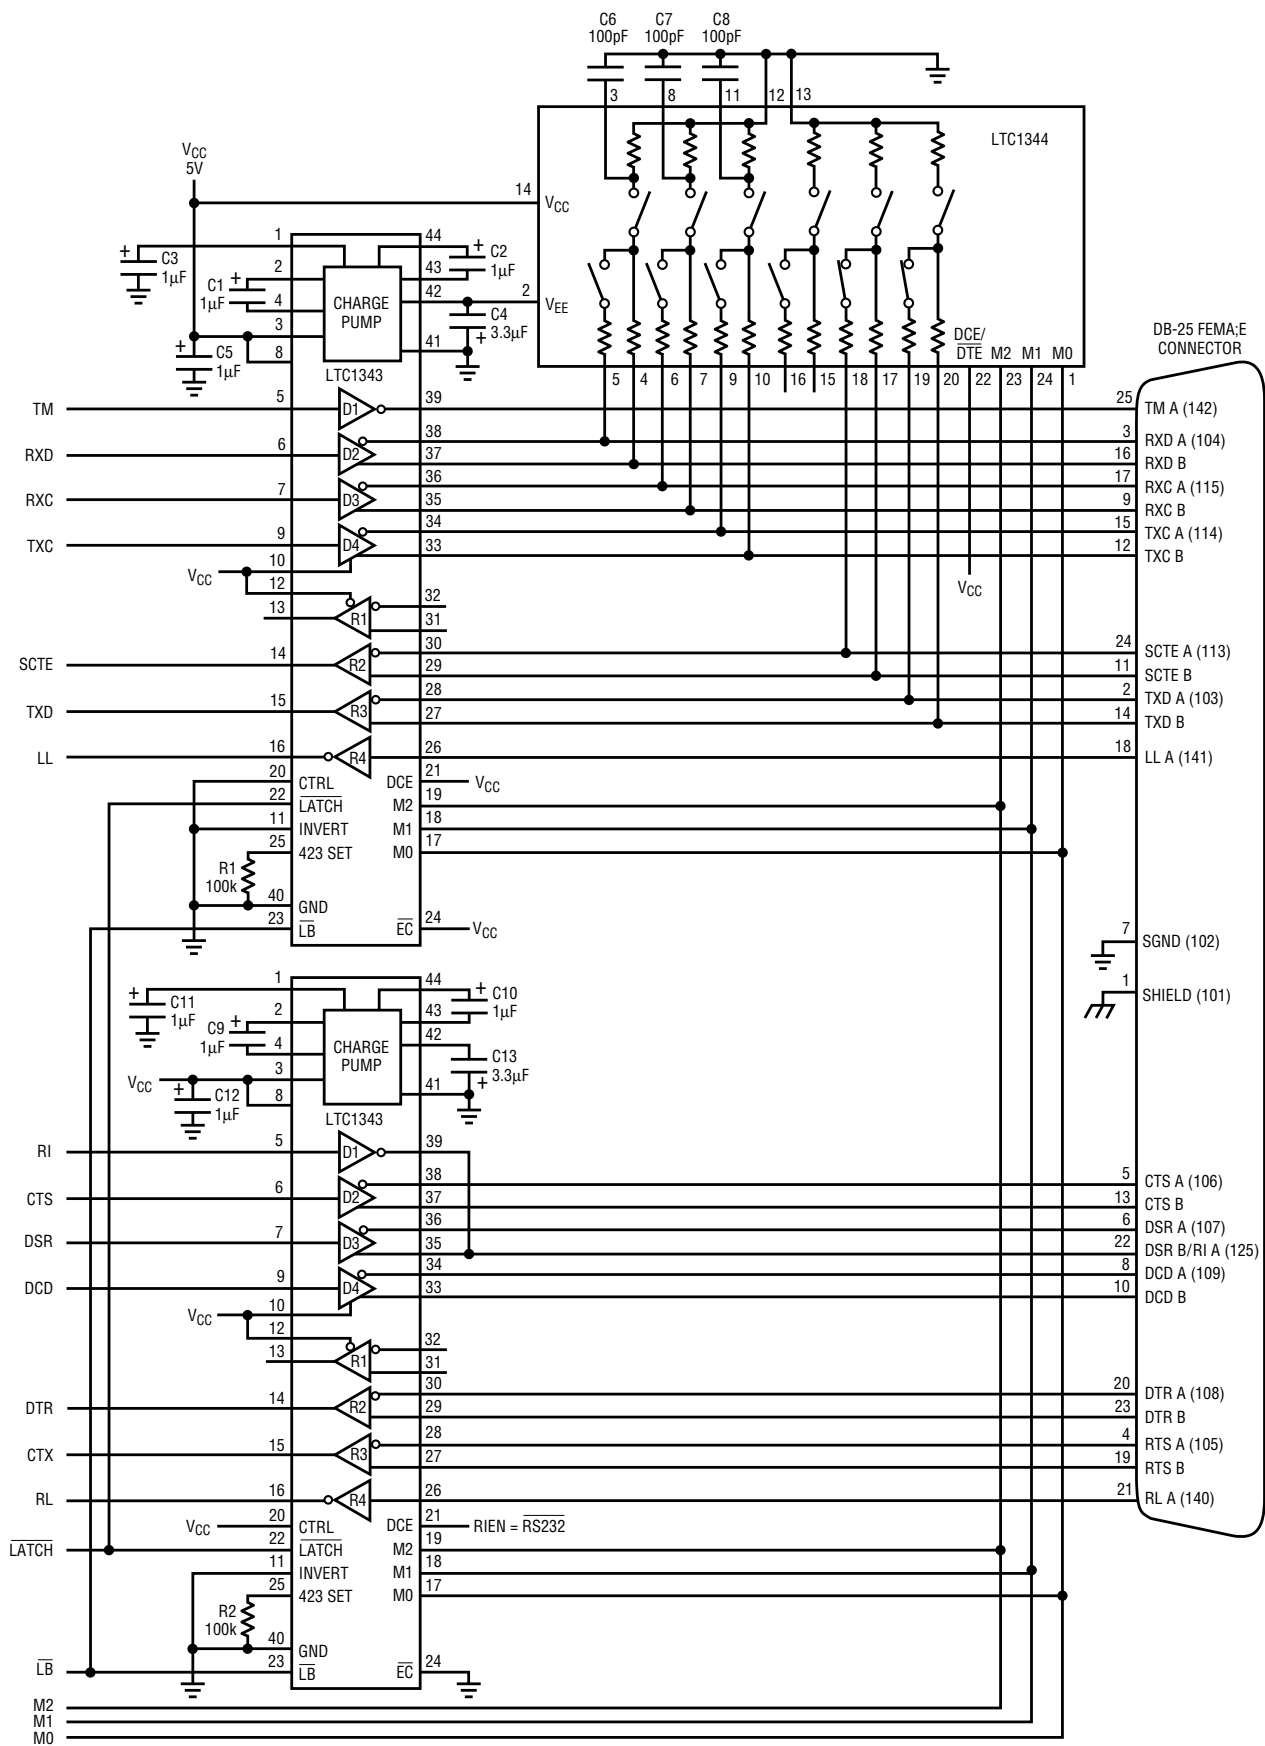

Figure 17. Controller-selectable multiprotocol DCE port with ring-indicate and DB-25 connector
Single-ended receiver 4 can be connected to pin 22 to implement the RI (ring indicate) signal in RS232 mode (see Figure 17). In all other modes, pin 22 carries the DSR(B) signal.